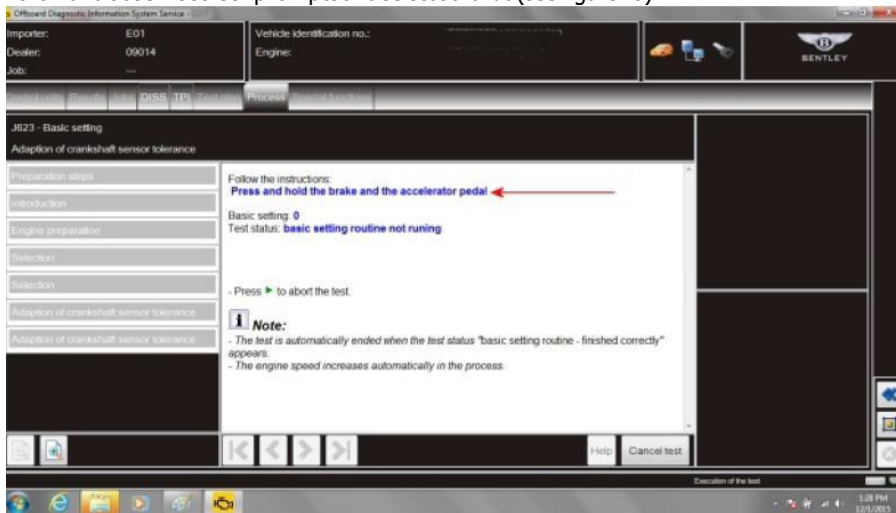

Figure 21
8. Following the screen prompts press and hold the brake and the accelerator pedal. (see Figure 21) **NOTE:** It is expected that the engine speed will rise rapidly to close on maximum rpm this is normal for this test keep the accelerator and brake pressed for the test to continue. The engine speed will rise and fall approximately 3 times during the test